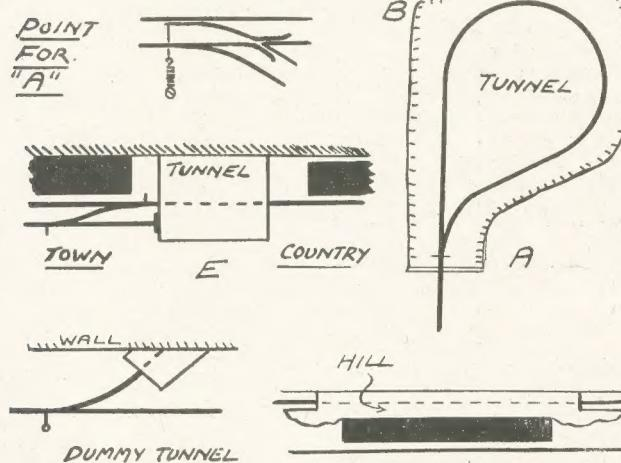

Fig. 1—Some examples of track layout and tunnels
A tunnel can be very helpful where it is necessary to bring a train back and past a station it has just left, but stay behind it. Fig. 1 (F) shows the idea. The station is well in view of the spectator and sharply behind this rises a hill of brown paper or other material under which speeds our train, invisible to anyone looking at the line in front.
And it is in the breaking down of this impression that tunnels are so useful. Look at Fig. 1. Here a line has to finish at (B) because there is no more room. You could have a station there into which the trains just run, stop and then come back. But if this position is not very far from the beginning station the line is going to look really very short.
A tunnel like this is useful, too, for a quick change in character of the line. Thus as shown in (E), Fig. 1, the left side of the division might be a busy station made up with a back-scene of town houses and factories while the right suddenly becomes pure countryside.